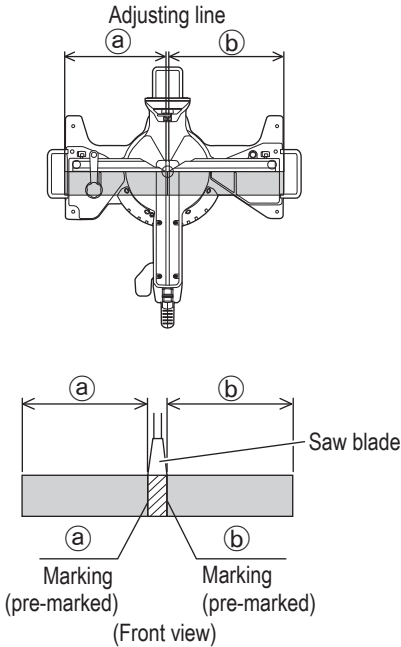

Fig. 25
- (1) As shown in Fig. 25 the width of the saw blade is the width of the cut. Therefore, slide the workpiece to the right (viewed from the operator's position) when length (b) is desired, or to the left when length (a) is desired. Use the LED light, project the shadow of the blade onto the workpiece, align the left side or right side of shadow of the blade with the ink line on the workpiece.